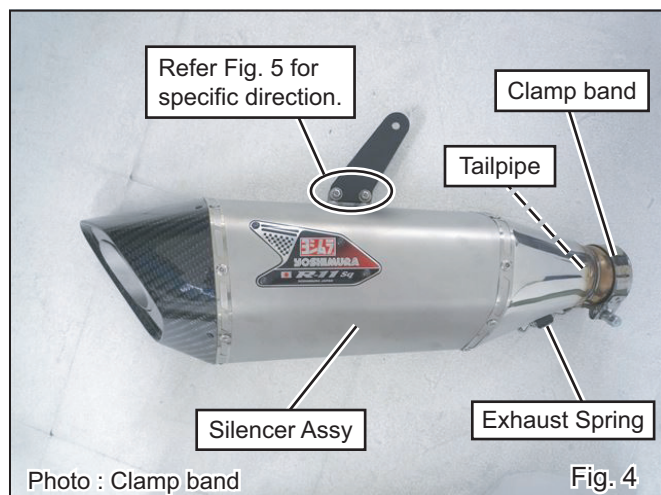

Fig. 4
- 5) Attach Silencer Bracket on to Silencer Assy with 2 of each Button Bolt M6x20, Washer M6x13 and Flange Nut M6 (See Fig. 4 & 5). Tighten the bolts by hand only at this stage.
- 6) Install Silencer Assy to Tailpipe and fix them with Exhaust Spring (See Fig 4 & 5).